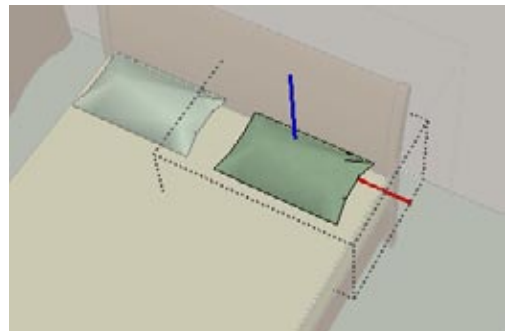

Figure 10-49
8. To resize the pillows, open either one of them for editing and use Tape Measure to make them both about 550mm long (Figure 10-49). Move them into place if necessary.